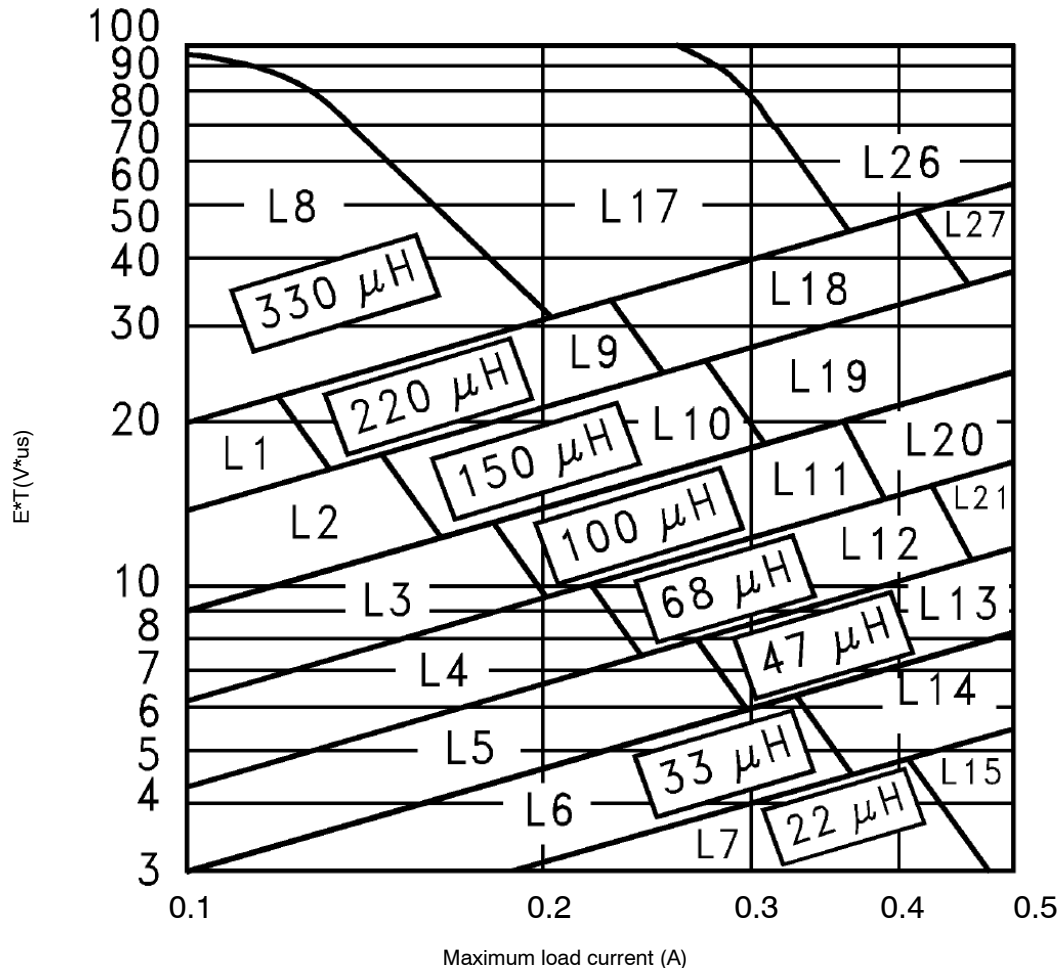

Figure 19. Inductor Value Selection Guides (For Continuous Mode Operation)
<p>4. Inductor Selection (L1)</p> <p>A. Use the following formula to calculate the inductor Volt x microsecond [V x μs] constant:</p> $E \times T = (V_{IN} - V_{OUT} - V_{SAT}) \times \frac{V_{OUT} + V_D}{V_{IN} - V_{SAT} + V_D} \times \frac{1000}{150 \text{ kHz}} (V \times \mu s)$ <p>B. Match the calculated E x T value with the corresponding number on the vertical axis of the Inductor Value Selection Guide shown in Figure 19. This E x T constant is a measure of the energy handling capability of an inductor and is dependent upon the type of core, the core area, the number of turns, and the duty cycle.</p> <p>C. Next step is to identify the inductance region intersected by the E x T value and the maximum load current value on the horizontal axis shown in Figure 19.</p> <p>D. Select an appropriate inductor from Table 3. The inductor chosen must be rated for a switching frequency of 150 kHz and for a current rating of $1.15 \times I_{Load}$. The inductor current rating can also be determined by calculating the inductor peak current:</p> $I_{p(max)} = I_{Load(max)} + \frac{(V_{in} - V_{out}) t_{on}}{2L}$ <p>where t_{on} is the "on" time of the power switch and</p> $t_{on} = \frac{V_{out}}{V_{in}} \times \frac{1.0}{f_{osc}}$	<p>4. Inductor Selection (L1)</p> <p>A. Calculate E x T [V x μs] constant:</p> $E \times T = (12 - 5 - 1.0) \times \frac{5 + 0.5}{12 - 1 + 0.5} \times \frac{1000}{150 \text{ kHz}} (V \times \mu s)$ $E \times T = (6) \times \frac{5.5}{11.5} \times 6.7 (V \times \mu s)$ <p>B. E x T = 19.2 [V x μs]</p> <p>C. $I_{Load(max)} = 0.5 \text{ A}$ Inductance Region = L20</p> <p>D. Proper inductor value = 100 μH Choose the inductor from Table 3.</p>
To simplify the inductor selection process, an inductor selection guide for the LM2594 regulator was added to this data sheet (Figure 19). This guide assumes that the regulator is operating in the continuous mode, and selects an inductor that will allow a peak-to-peak inductor ripple current to be a certain percentage of the maximum design load current. This percentage is allowed to change as different design load currents are selected. For light loads (less than approximately 300 mA) it may be desirable to operate the regulator in the discontinuous mode, because the inductor value and size can be kept relatively low. Consequently, the percentage of inductor peak-to-peak current increases. This discontinuous mode of operation is perfectly acceptable for this type of switching converter. Any buck regulator will be forced to enter discontinuous mode if the load current is light enough.